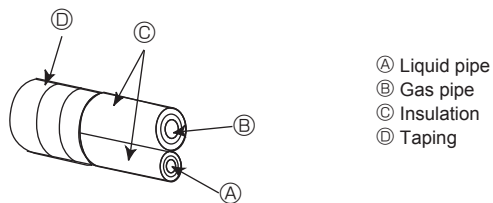
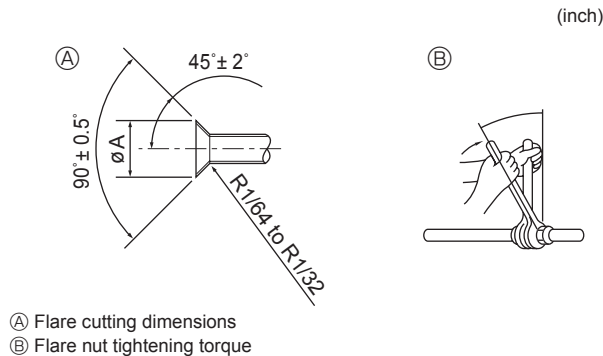

Fig. 4-1
Fig. 4-2
Ⓐ (Fig. 4-1)
Ⓑ (Fig. 4-1)
4.2. Connecting pipes (Fig. 4-1) (Fig. 4-2)
When commercially available copper pipes are used, insulate both the liquid and gas pipes separately with commercially available insulation materials (heat-resistant to 100°C, 212°F or more, thickness of 12 mm, 1/2 inch or more). (Fig. 4-1)
[Fig. 4-2]